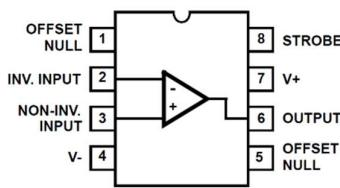

Fig. 7.1. CA3140 pin diagram.
In automatic volume control, the VU Meter serves the purpose of measuring the output signal amplitude from the PA subsystem. This measurement is fed back to the controller unit for adjusting the input amplitude to the PA. To construct the VU Meter, the CA3140 operational amplifier integrated circuit (IC) is employed, depicted with its pin diagram in Fig. 7.1.